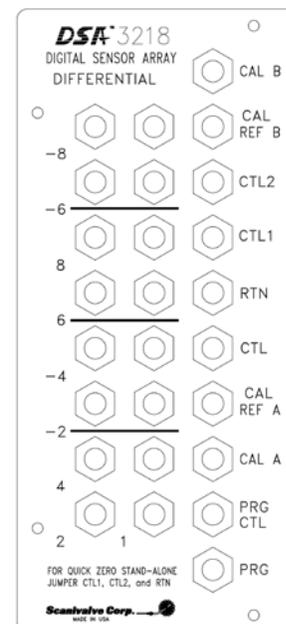

FIGURE 2.10 - DSA3218-PTP/8DPx DIFFERENTIAL TOP PANEL
For differential pressure measurement applications, the DSA3218-PTP can be configured with eight (8) differential pressure transducers. They are arranged into two (2) groups of four (4) transducers. Like the DSA3218-PTP/16Px, each group of transducers has a dedicated calibration valve. Figure 2.10 depicts the top panel of a DSA3218-PTP/8DPx module.